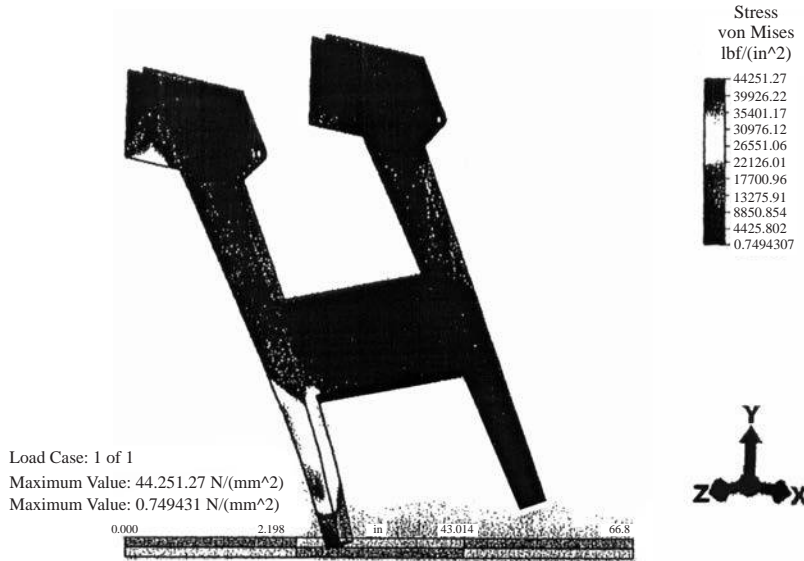

**Figure 3** Maximum Deflection
**Figure 3** von Mises plot due to 250 lb rider (maximum stress is 534.3 MPa)